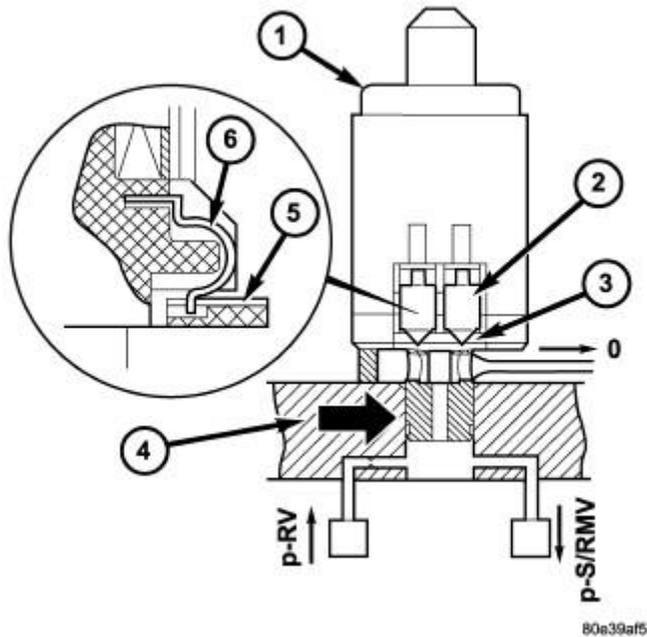

Fig. 207: Cutaway View Of Shift Pressure Control Solenoid Valve
The shift pressure regulating solenoid valve (1) assigns a proportional pressure to the current which is controlled by the TCM according to the load. Refer to **Fig. 207**.